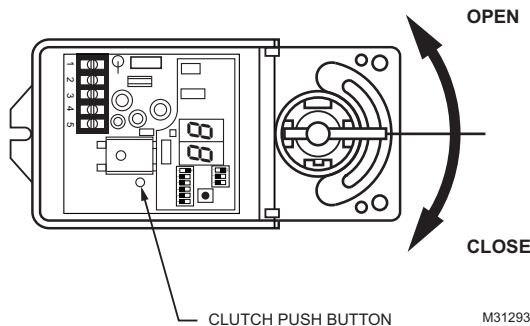

Fig. 11. Manual Operation.
3. Rotate valve stem to manually operate valve. Clockwise to close, Counter-Clockwise to open. See Fig. 11.